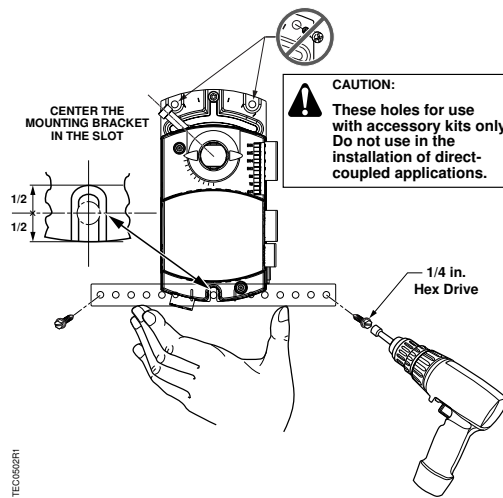

Figure 10. Installing the Mounting Bracket.
9. Attach the mounting bracket, Figure 10.